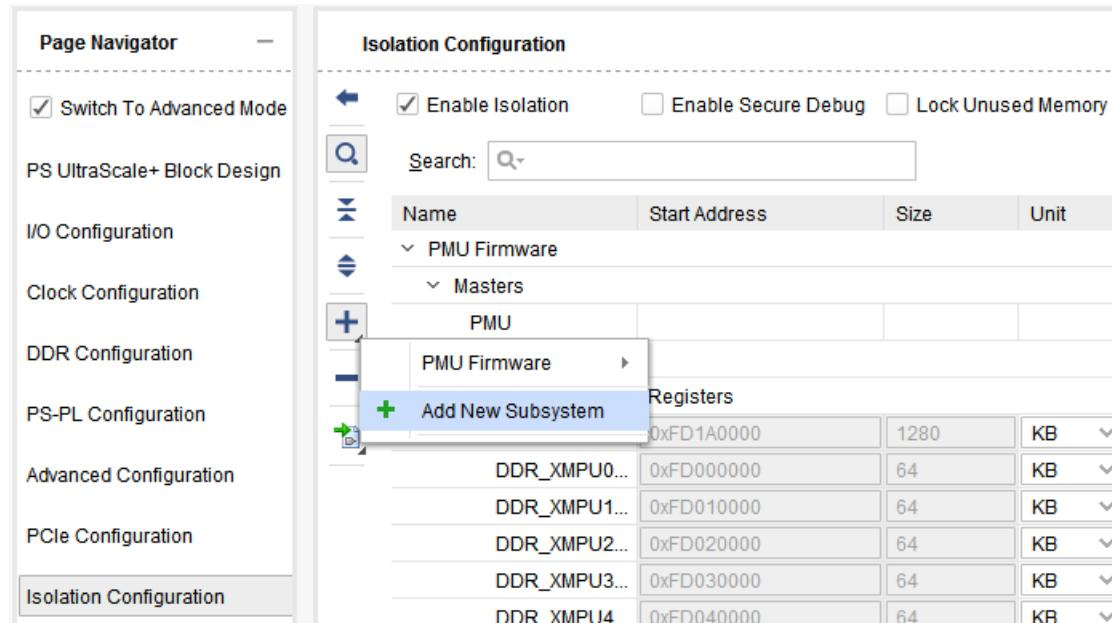

Figure 4-21: Creating a New Subsystem
1. Create a subsystem with any meaningful name using the "+" button as shown in Figure 4-21.
2. To configure Isolation, enable the Isolation feature using **Enable Isolation button** as shown in Figure 4-21.